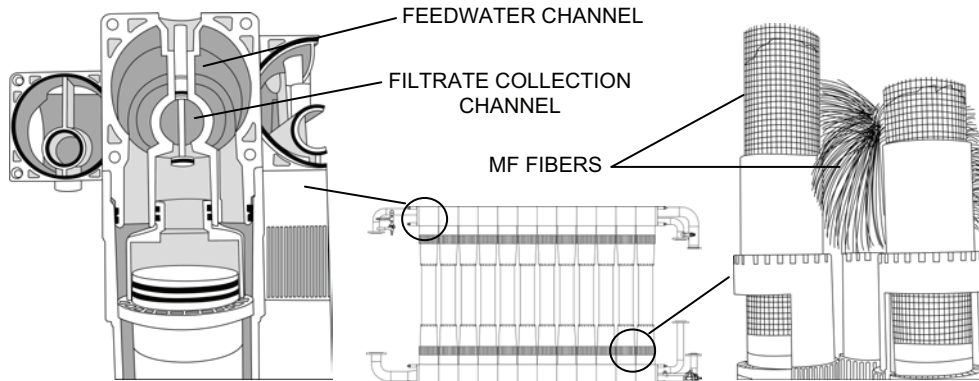
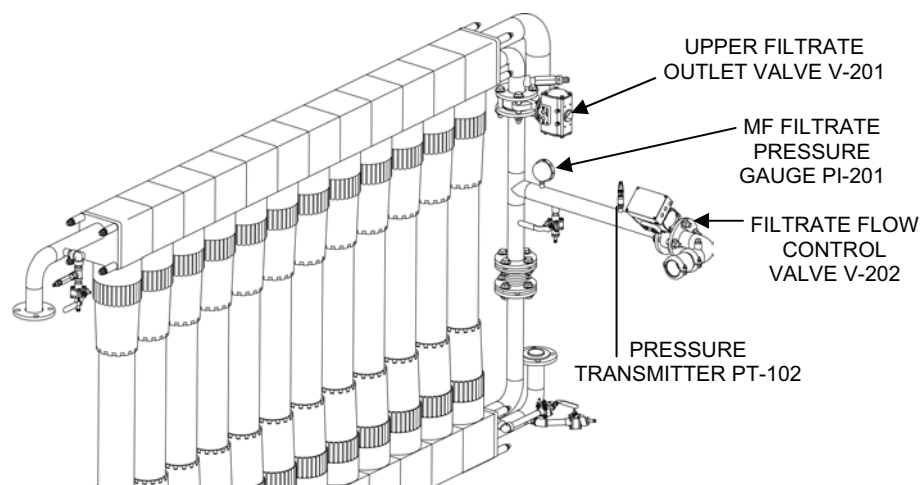

Figure 6. Micro-Filtration (MF) Process.
Figure 7. MF System: MF Modules to Discharge to RO Feed Tank.
The feed water flows into the top and bottom shell of each of the 12 MF elements and around the outside of the MF filtration fibers contained within each element (see Figure 6). The feed water then flows through the fiber pores and into the hollow center of each fiber. Dirt and organic materials in the feed water build up on the outside of the fibers until removed through the waste outlets by the next backwash. The filtered feed (filtrate) flows out the hollow center of the MF fibers and into filtrate collection channels. The channels collect the filtrate from the modules and direct the flow out the upper and lower filtrate outlets of the MF assembly.
Filtrate that flows out the upper end of the MF assembly flows through Upper Filtrate Outlet Valve V-201 (see Figure 7). During normal operation V-201 is de-energized open to allow normal flow to Filtrate Flow Control Valve V-202. Filtrate that flows out the lower end of the assembly flows directly to Valve V-202. MF Filtrate Pressure Gauge PI-201 measures the filtrate pressure in the line between the Micro-filter (MF) assembly and Filtrate Flow Control Valve V-202. Piping directs the filtrate through the automatic Filtrate Flow Control Valve (V-202) and into the RO feed tank.
Pressure Transmitters PT-101 (see Figure 6) and PT-102 (see Figure 7) measure the feed and filtrate pressures. The difference between the feed pressure and the filtrate pressure is the trans-membrane pressure (TMP; pressure drop across the membranes, or filter element fibers, of the MF assembly). TMP (pressure drop) is displayed at the operator control panel (OCP) and is an indication of how clogged the fibers are. A high TMP indicates that the MF fibers are becoming clogged with material and need to be cleaned. A high alarm indicates the need to clean the MF. The Operator can also compare the PI-101 feed pressure gauge reading with the PI-201 filtrate pressure gauge reading as a manual check against the automatically measured and calculated TMP.